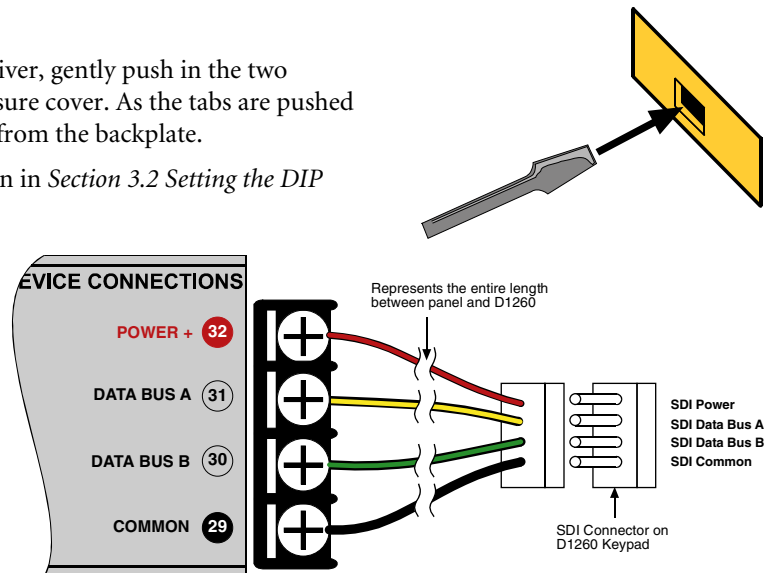

Figure 9: 9000 Series panel to D1260 Flying Leads Wiring
4. Connect the flying leads of the wiring assembly (provided) to the wires from the panel, as shown in *Figure 9*.